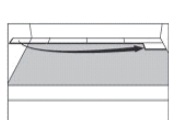

Figure 2
6. Begin the second row with the cut piece from the first row. If the cut piece is shorter than 8" (20 cm), do not use it. Instead, begin with a new board that is at least 8" in length and allow 8" between the end joints on the adjacent planks. (Figure 2)